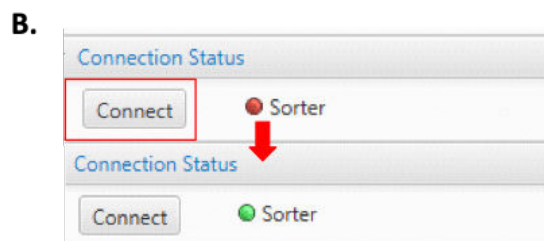

Figure 9. WOLF G2 power on and indicator lights.
1. Turn on the WOLF G2 by pressing the button located in the upper right corner of the instrument (Fig. 9 A).
4. If the WOLF G2 is not automatically connected click "Connect" on the Connection Status Panel. The software indicator should turn green (Fig. 9 B).